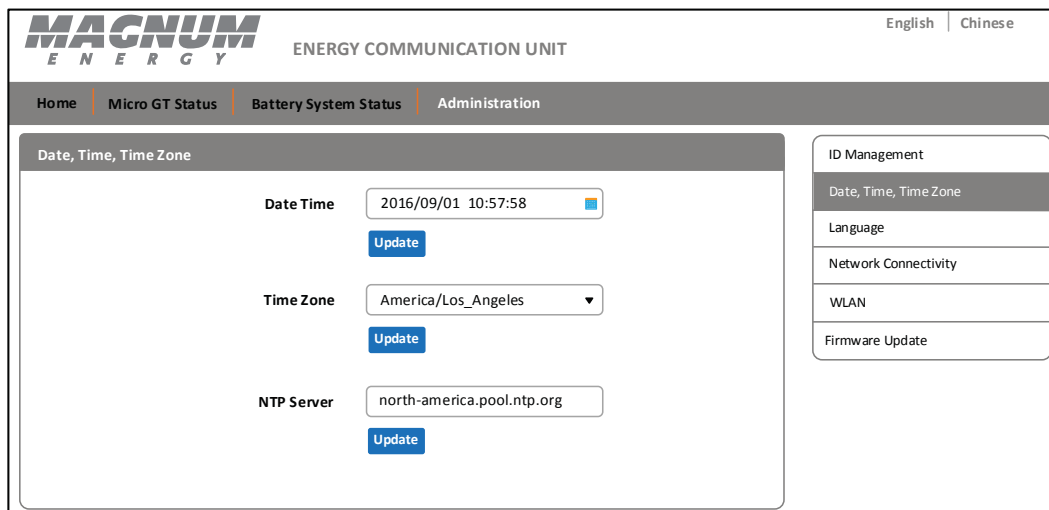

Figure 27, Date, Time, Time Zone Option
1. From the *Administration* tab, select the *Date, Time, Time Zone* option from the list to the right. The Date, Time, Time Zone screen appears (Figure 27).